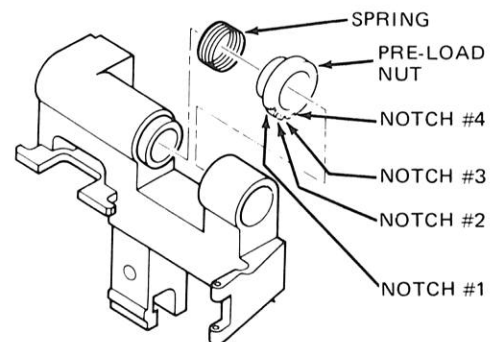

FIGURE 8 CARRIAGE ASSEMBLY
- h. If installing a new carriage, set the pre-load nut in the # 3 notch. Reference Figure 8.